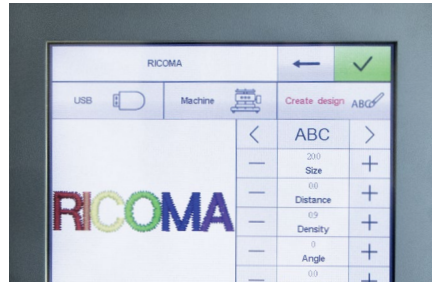

Figure 76
3. Type in the word you wish to embroider. **See Figure 76.**